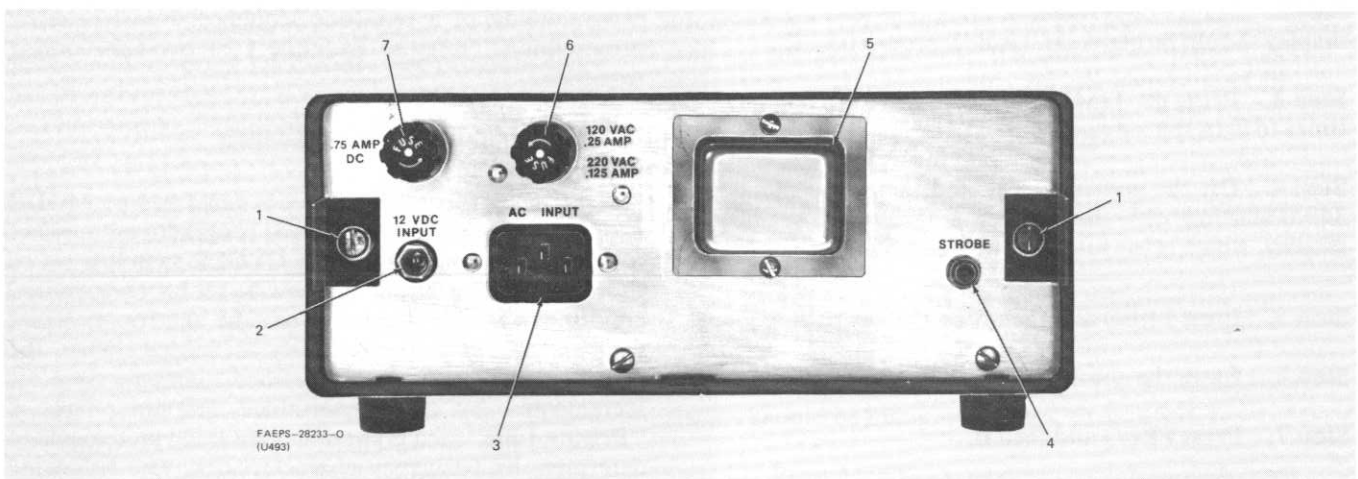

Figure 2-2. Rear Panel Location Detail
2.2.2 Rear Panel (See Figure 2-2)